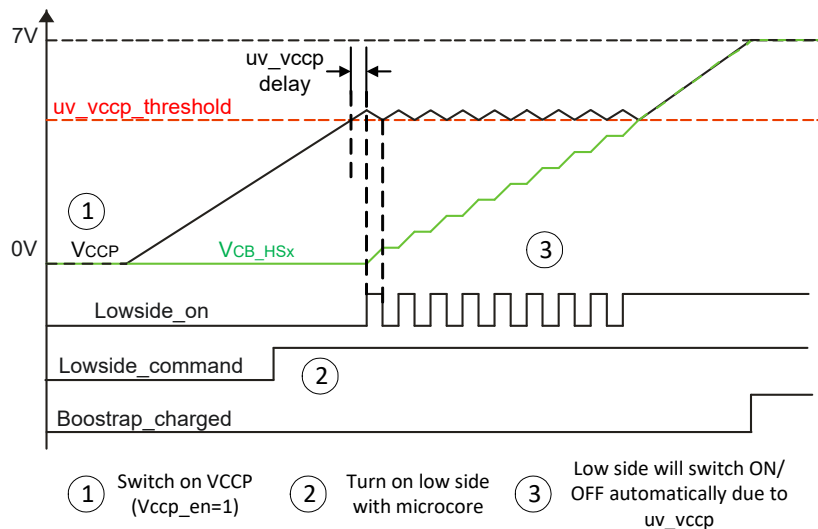

Figure 23. Power-up: V_{CCP} and bootstrap capacitors - before V_{CCP} fully charged
- Switch on the LS MOSFET(s) as soon as possible after the V_{CCP} voltage is above the V_{CCP_UV} threshold. This causes the V_{CCP} voltage to cross the V_{CCP_UV} threshold again and thereby the LS MOSFET(s) and the bootstrap diode are switched off again. The V_{CCP} voltage recovers from undervoltage and after the delay min. of 16 μs, the LS MOSFET(s) and the bootstrap diode are switch on again. This pulsed charging of the bootstrap capacitors with a frequency of below 50 kHz continues until the voltage of the bootstrap capacitors is above the V_{CCP_UV} threshold. Figure 23 shows this strategy.